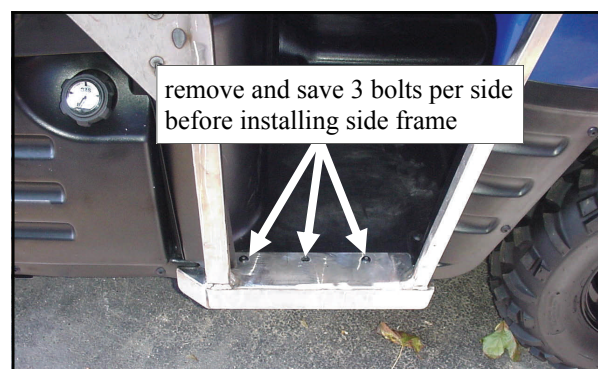

Fig. 1.1 View from passenger's side
1.1 Using a T27 Torx bit, remove three (3) original equipment screws on each side of the vehicle floorboard as shown in fig. 1.1. Save these six (6) bolts for re-installation in step 3.3. Note: these are self-tapping screws that were factory installed. Use care when removing and re-installing to avoid cross-threading or damaging the female threads underneath the vehicle floorboard.